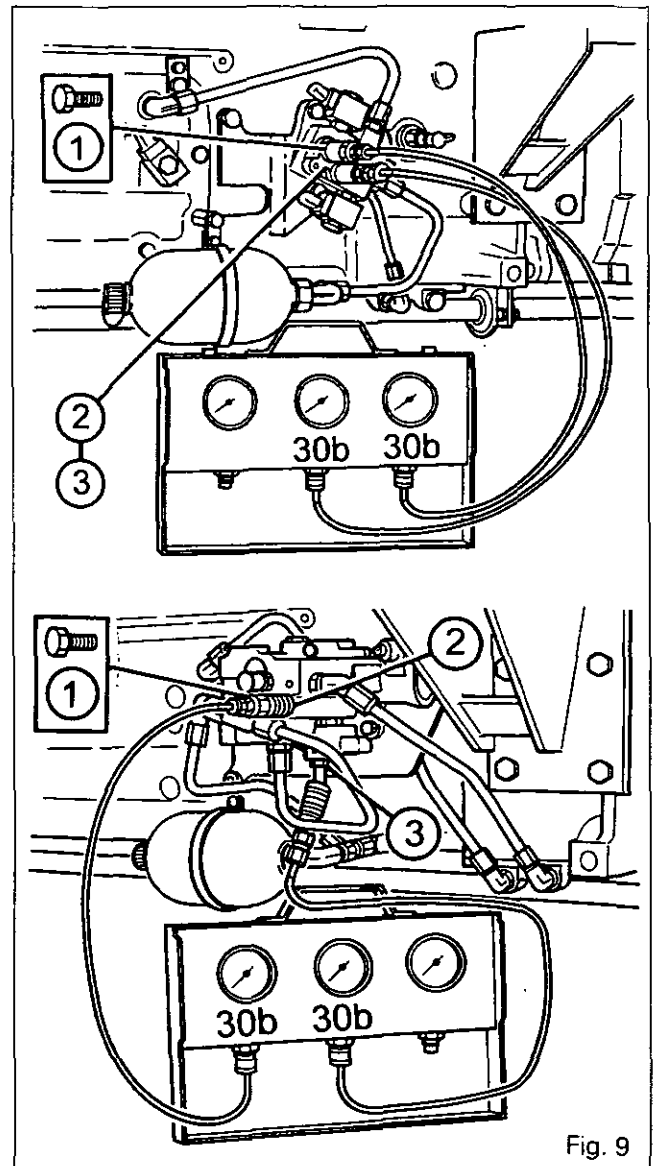

Fig. 9
Screw in two male connectors (2) - (3), ref. 3384387M1, and couple them with the diagnostic connectors connected to pressures gauges with a capacity of about 30 bar (Fig. 9).